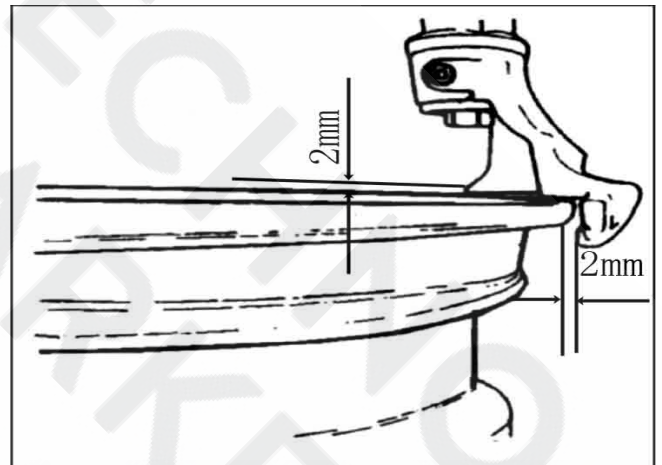

FIG 19
4.1.3 Position the hexangular shaft (FIG 2-3) to the working position to make the demount tool close to the rim of the wheel. And use the hand wheel (FIG 7-2) to push against the rocker arm and then use the lock handle( FIG 2-17) TO LOCK. The demount tool will automatically move a little of gap (FIG19).